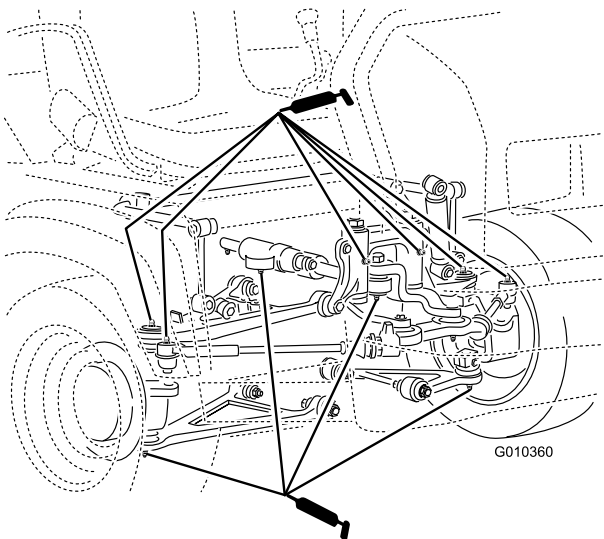

Figure 36
- Ball joints (4), tie rods (2) pivot mounts (2) and steering cylinder (2) (Figure 36)